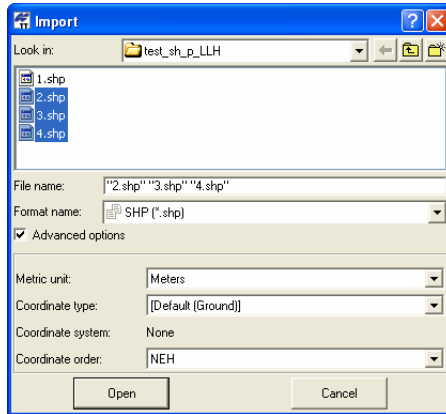

Figure 3-15. Import Shape File
4. Select the desired *Advanced* options to assign an additional options for SHP format (Figure 3-15):